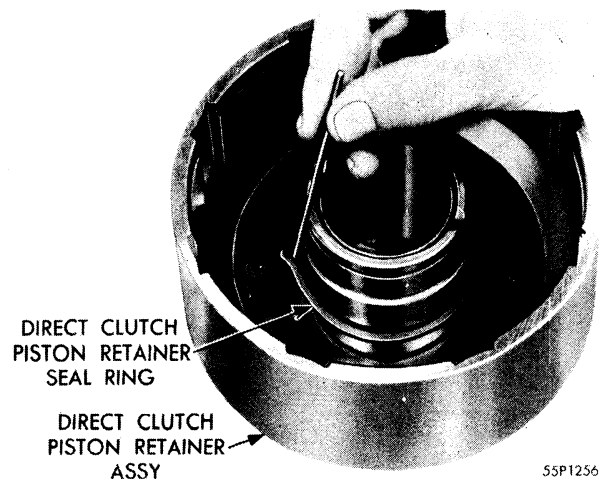

Fig. 90—Removal or Installation of Piston Retainer Seal Ring
- (9) Remove the direct clutch piston retainer seal ring (lip type neoprene) from retainer hub, as shown in Figure 90.
- (10) Remove the direct clutch piston seal ring (neoprene) from outer diameter of piston.